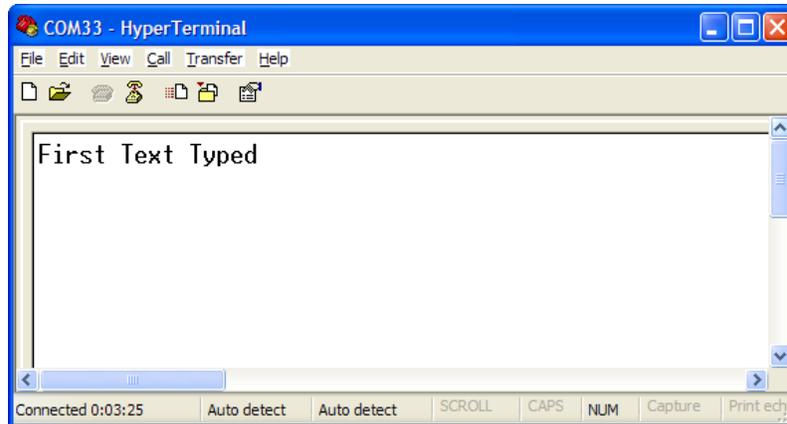

Figure 5-23. Text Typed in First Hyperterminal Window
1. Type some text in one of the Hyperterminal windows as shown in Figure 5-23.